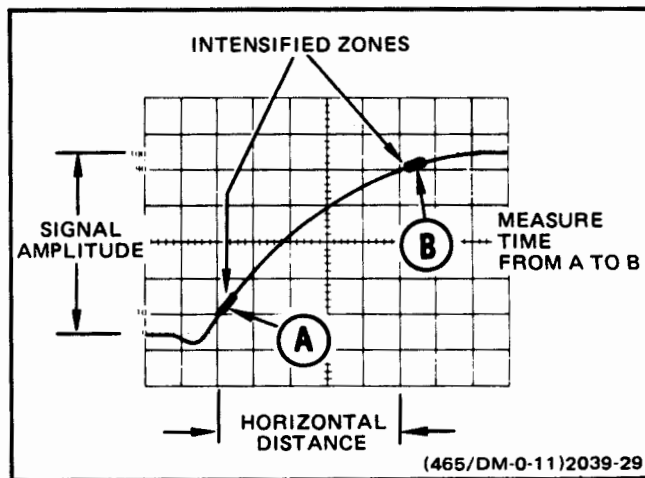

Figure 26. Rise time.
3. Vertically position the trace so that the zero reference of the waveform touches the 0% graticule line and the top of the waveform touches the 100% graticule line (see Figure 26).
4. Set the A TIME/DIV switch for a single-event display, with the rise time spread horizontally as much as possible. Horizontally position the display so the 10% point of the waveform intersects the third vertical graticule line (see Figure 26).
6. Use the DELAY TIME POSITION control to move the start of intensified zone (left-hand edge) until it just touches the intersection of the signal and the 10% graticule line (see Figure 26, Point A).
8. Use the DELAY TIME POSITION control to move the start of the intensified zone until it just touches the intersection of the signal and the 90% graticule line (see Figure 26, Point B).
EXAMPLE: The A TIME/DIV switch is set to  $1 \mu\text{s}$ . The DELAY TIME POSITION dial setting at Point A is 2.50 and the DELAY TIME POSITION dial setting at Point B is 7.50 (see Figure 26).